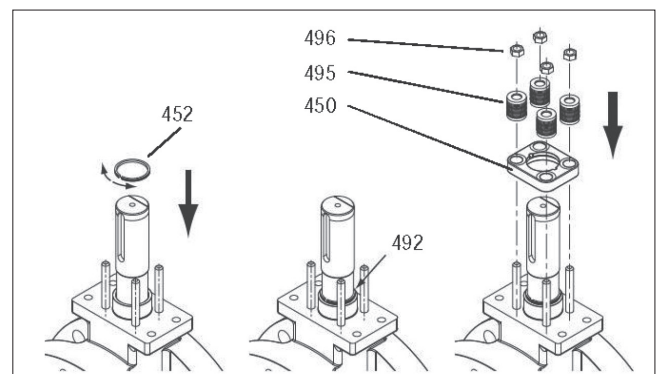

Fig. 27 Gland packing system BWXF, ~N, ~P
- Unfasten the nuts (496) and remove the disc spring kits (495), the gland (450), the retainer ring (452) and the compression ring (492). See Figure 27